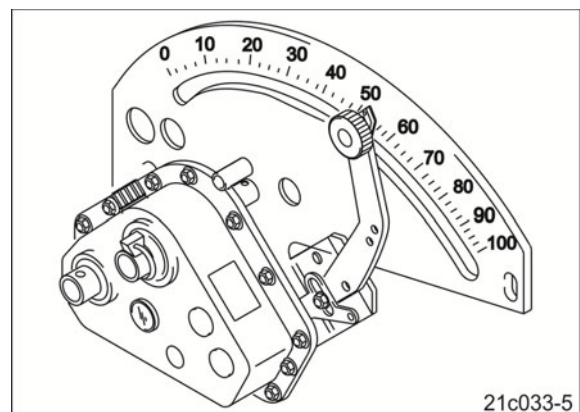

Fig. 217
5. Reduce the seeding rate to half. Adjust the gearbox setting lever (Fig. 217/1) accordingly.